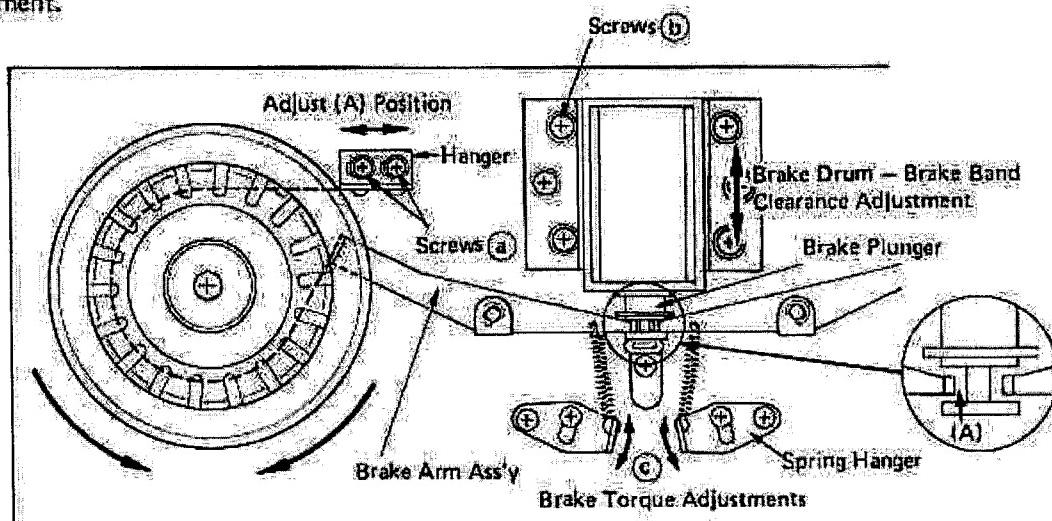

Fig. 9-4-1. Brake Mechanism Adjustments
hanger (reference (C) in Fig. 9-4-1) for the corresponding brake requiring adjustment. If the torque is still not correct, replace the brake felt pad with a new one after cleaning the inner side of the brake belt with an alcohol cleaning solution, and also check that the brake mechanism is properly aligned as explained in Section 9-4-1, "Brake Mechanism". If necessary, replace the entire reel table.